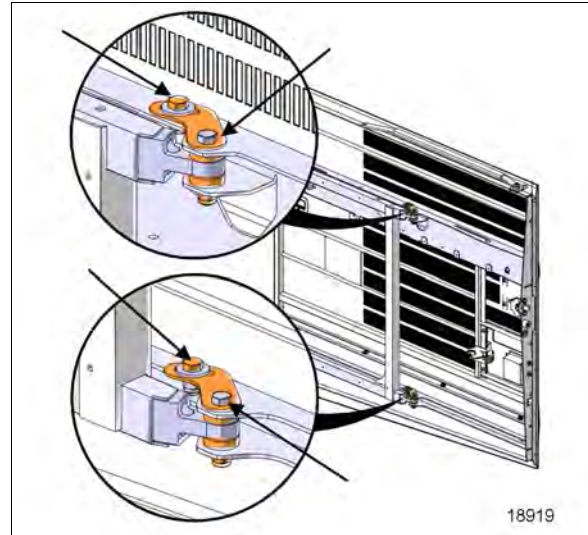

FIGURE 98: ARM TO DOOR ADJUSTMENT BOLTS
15. Adjust the longitudinal position with the attachment shown in Figure 98.